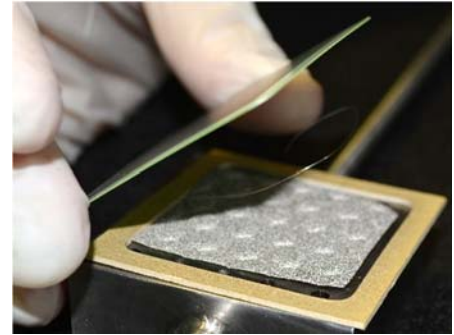

Figure 13
- Carefully align the cell and place it anode side down against the voltage wire and nickel mesh (Figure 13).